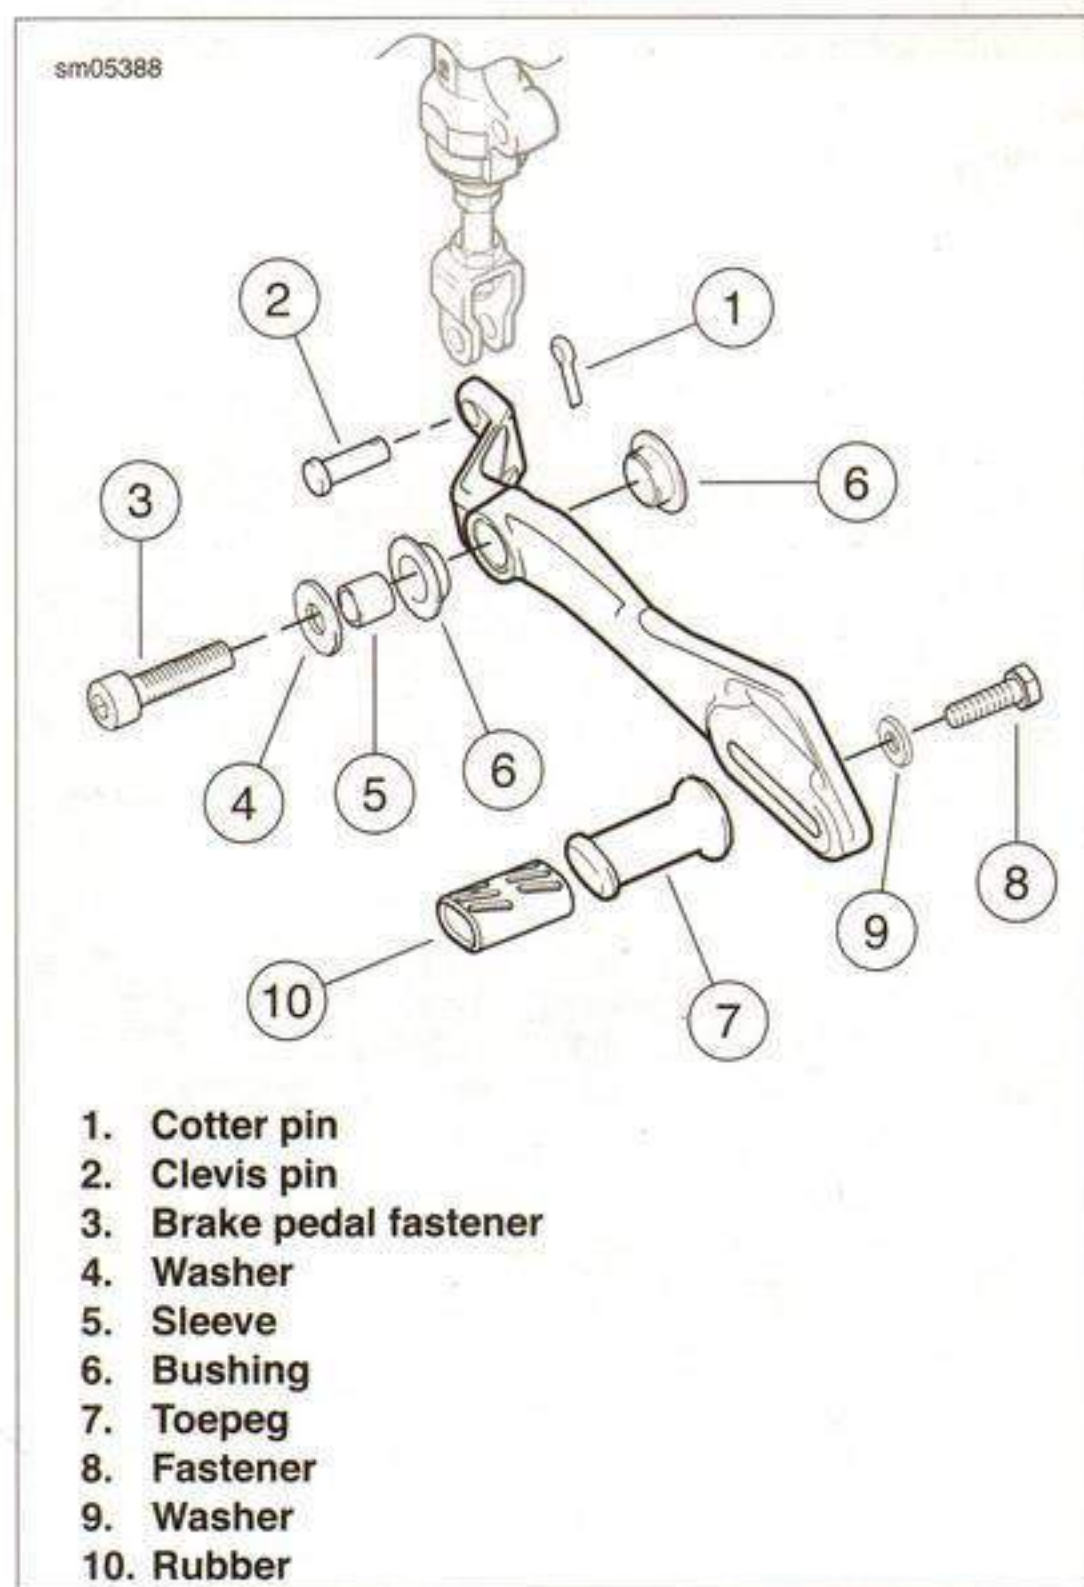

Figure 2-67. Rear Brake Pedal Assembly
1. See Figure 2-67. Replace toepeg (7) and rubber (10) as necessary.
2. Fit pedal bushings (6) and sleeve (5) to pedal.
3. Loosely install brake pedal with fastener (3) and washer (4).
4. Install clevis pin (2).
5. Install **new** cotter pin (1).
6. Apply LOCTITE 271 (red) to threads and tighten fastener (3) to 31.8-35.3 Nm (23.5-26.0 ft-lbs).